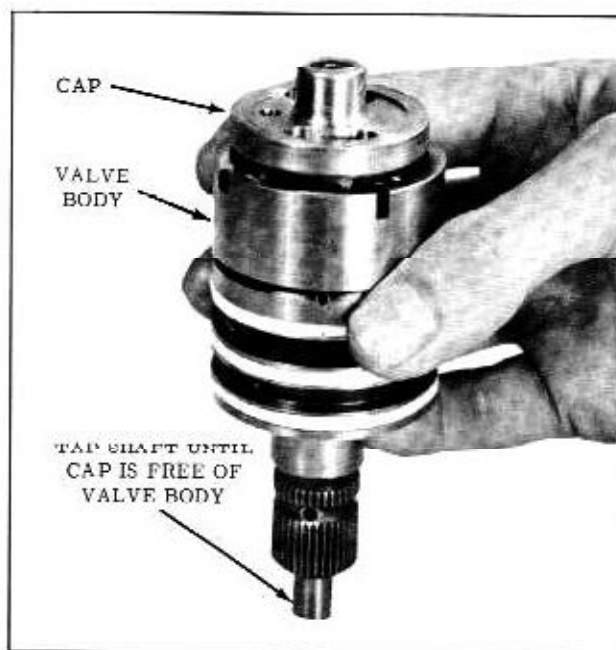

Fig. 4-84 Removing Lower Shaft
- a. While holding the assembly (lower shaft down), lightly tap the lower shaft against the bench until the shaft cap is free from the valve body. (Fig. 4-84) The spool valve should be held in the valve body while tapping the shaft.